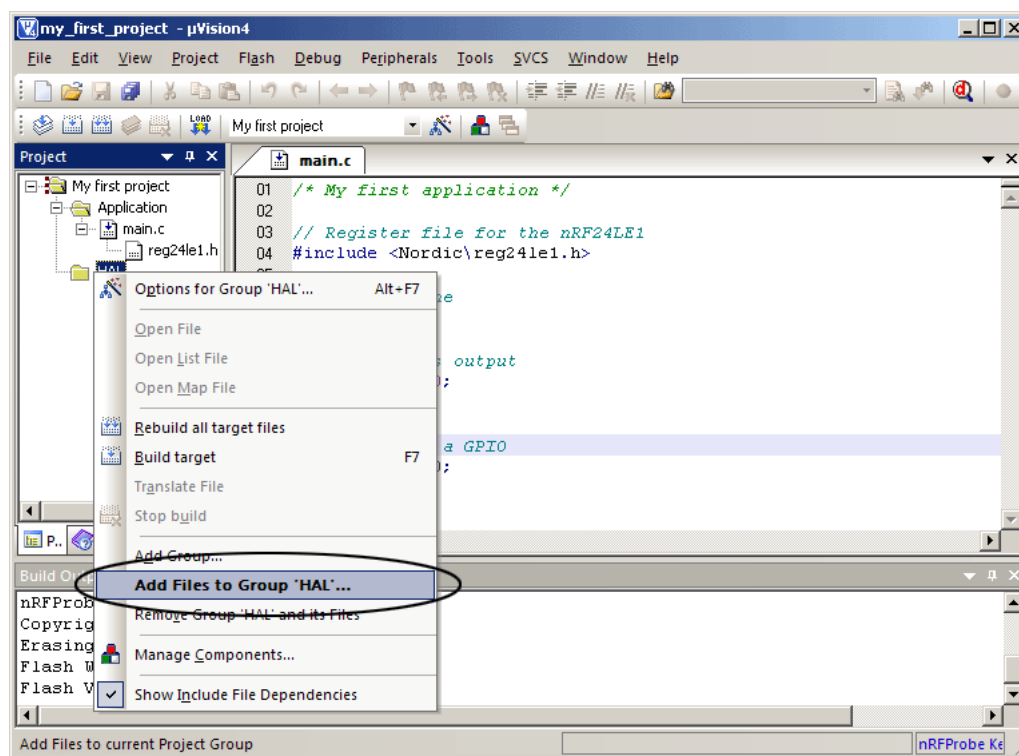
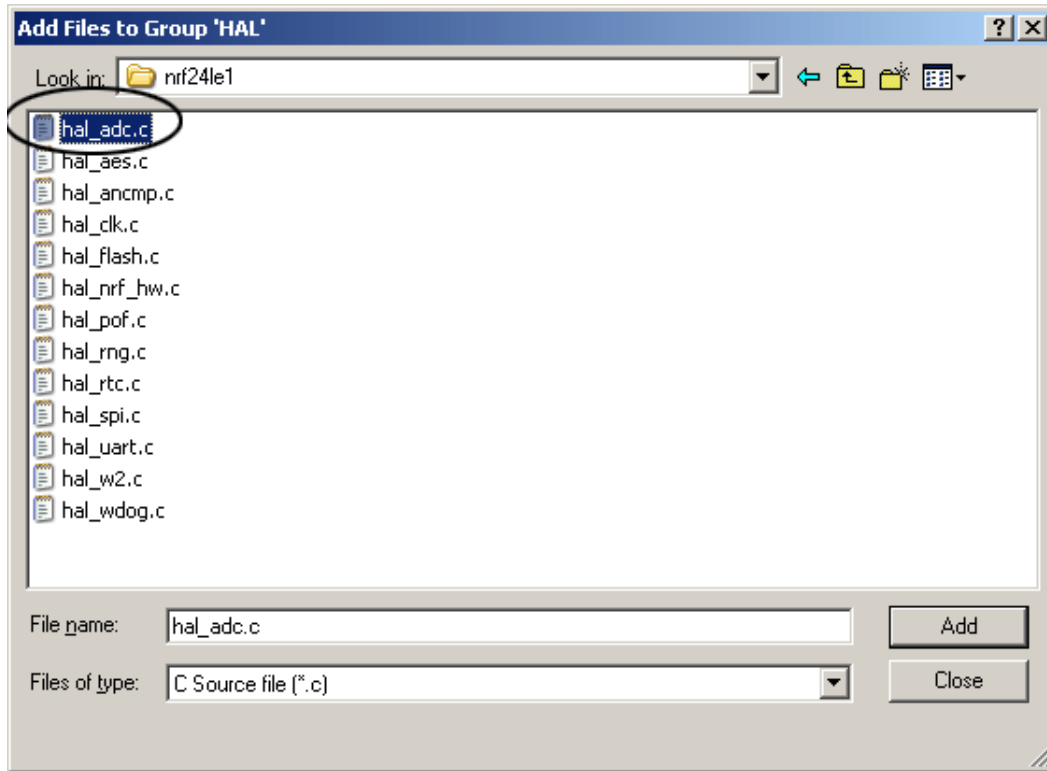

Figure 25. Including the HAL for the ADC
Figure 26. Browse to \Source code\hal\nrf24le1 and include hal_adc.c
1. Select the HAL folder in the Project tree view and activate the context menu by right-clicking. Select **Add Files to Group 'HAL'...** from the context menu. See Figure 25.
- The HAL can easily be included by right-clicking on the HAL folder in the Project tree view and then selecting "Add the hal_adc.c to the project" as shown in Figure 25. on page 21. See Figure 26.
- The HAL for the ADC is now included in the project, and to use the functionality of the HAL you can include it in the main.c by writing `#include <hal_adc.h>`. See encircled area in Figure 26.